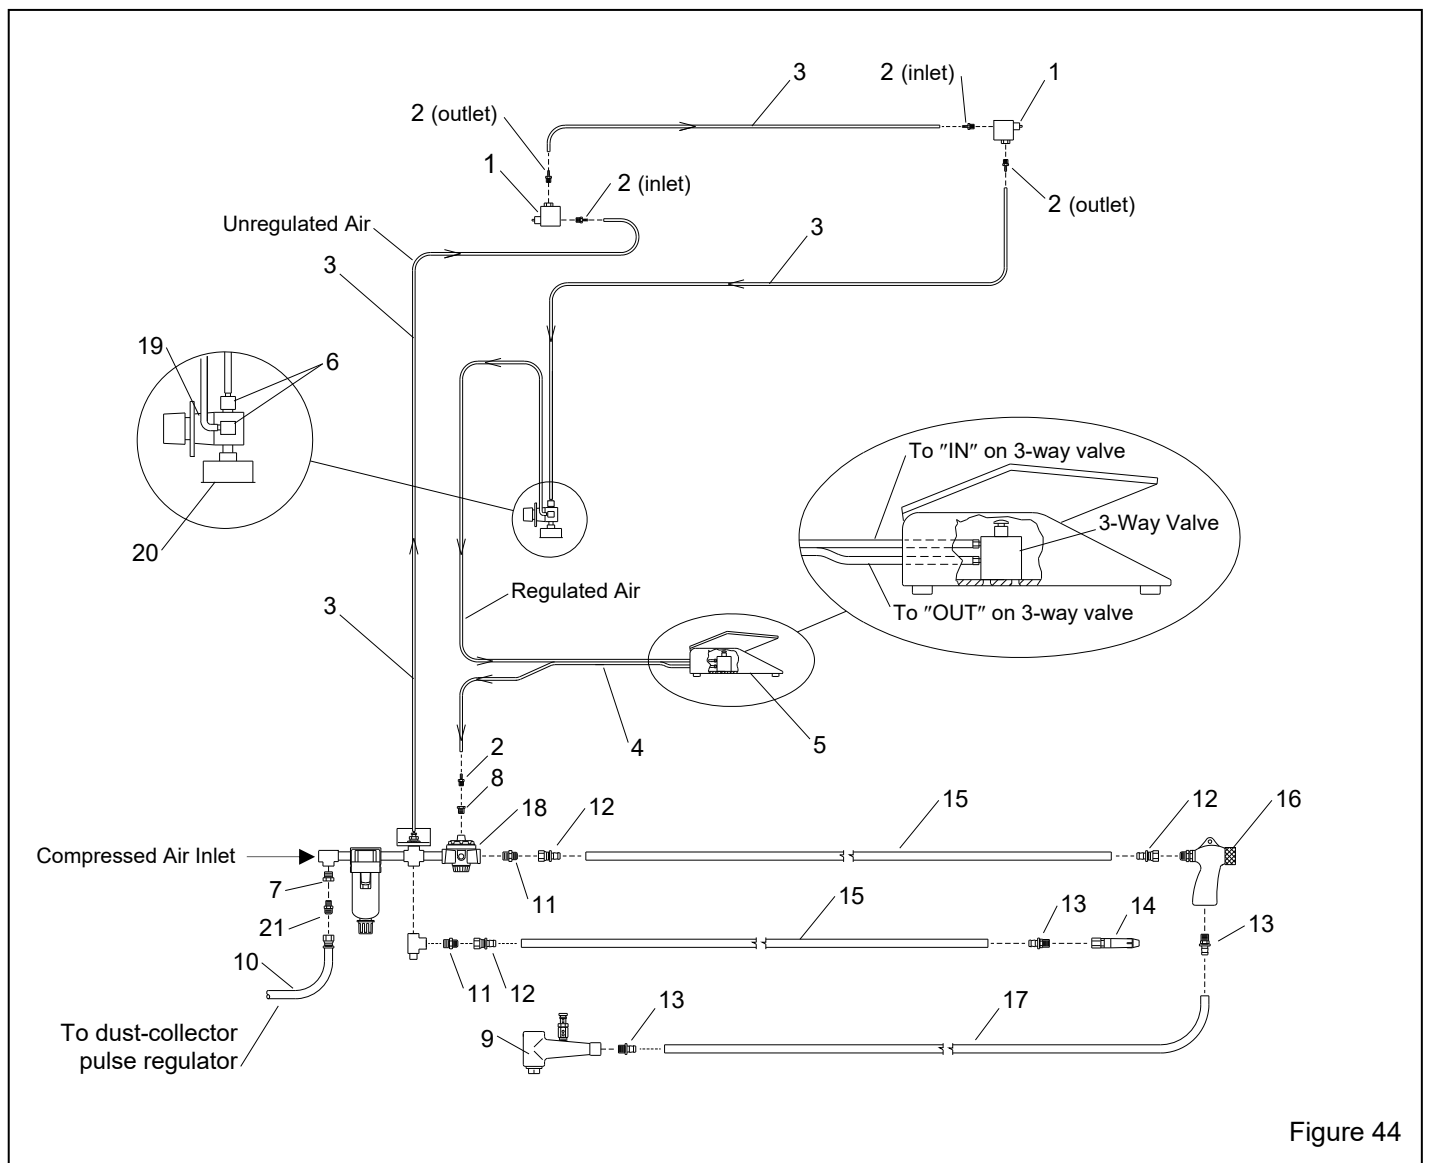

Figure 44
9.3 Plumbing and Cabinet Controls – Figure 44